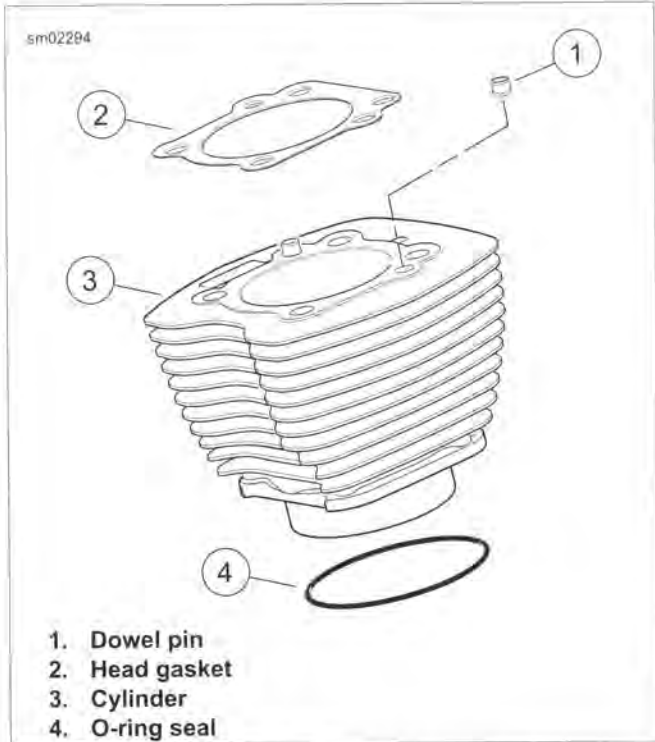

Figure 3-21. Cylinder Assembly
5. See Figure 3-21. Remove O-ring seal (4) from the bottom of the cylinder liner. Discard O-ring seal.